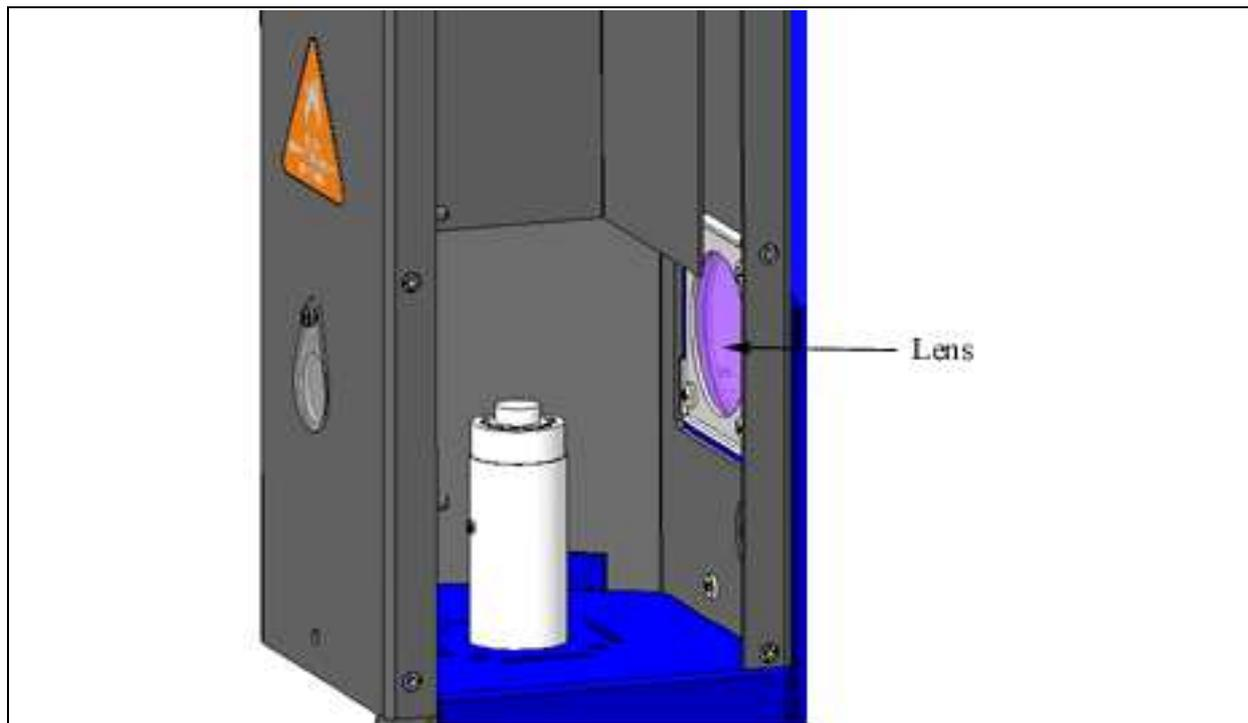

Figure 7.6
- Reach into the Outer Chimney and clean the window *very* gently using a *very* soft cloth or cotton swab soaked in alcohol. See Figure 7.6.